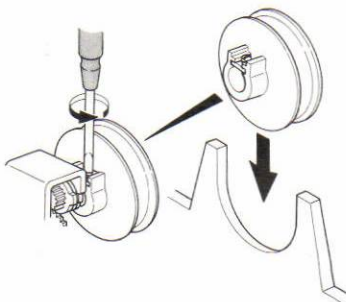

Fig. 4
- 1) Remove the dial drum. (Refer to Fig. 4)